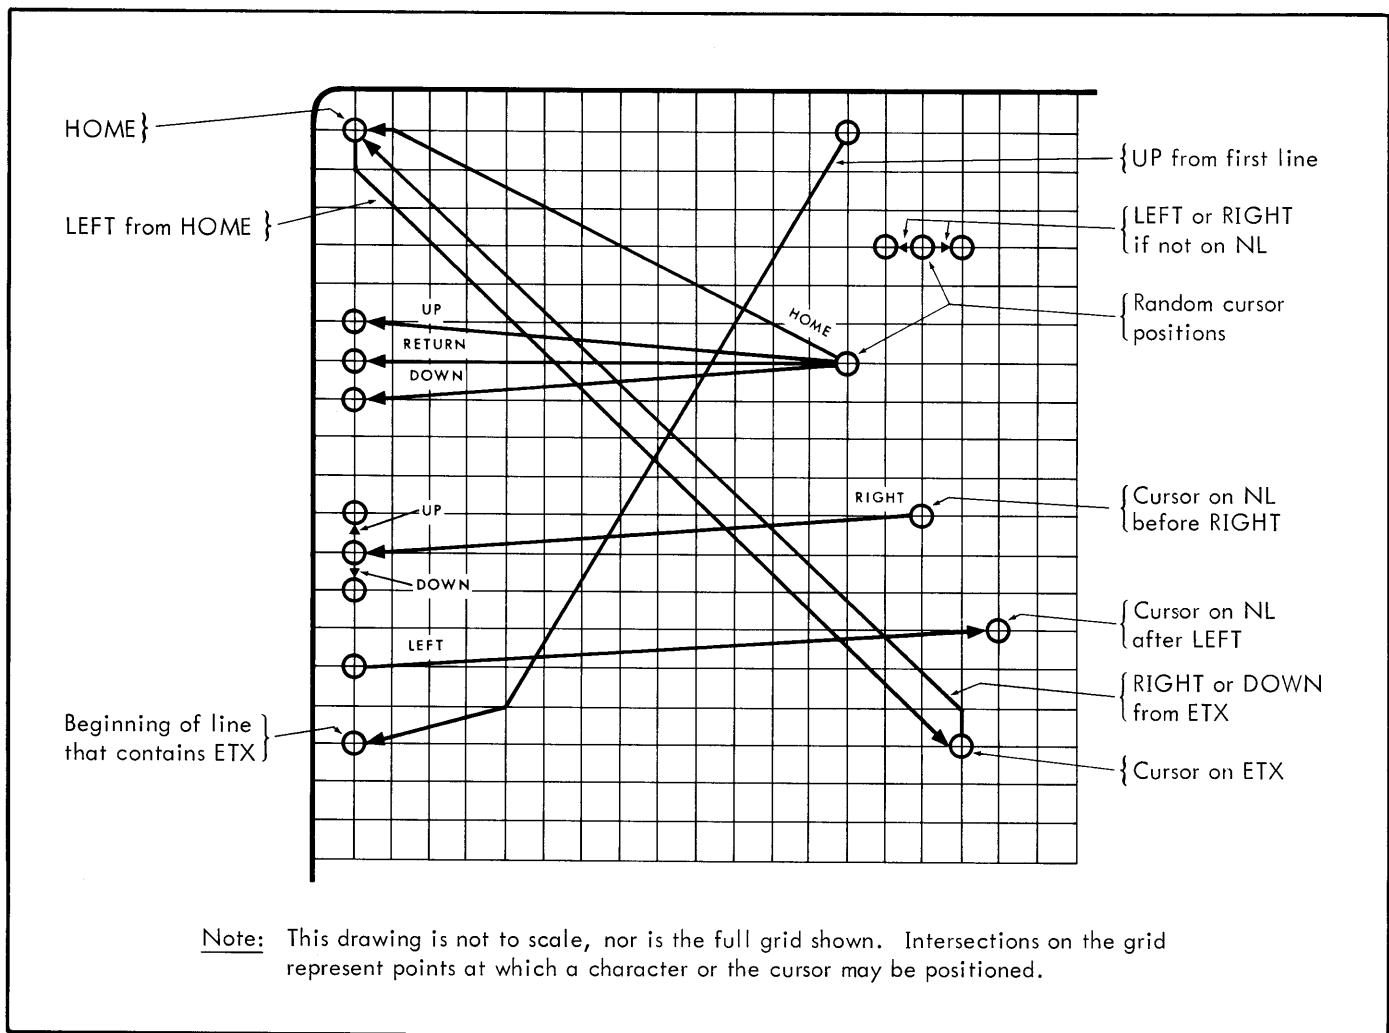

Figure 4. Cursor Operations
The cursor is stored in the delay line memory as a special character; it occupies the character position preceding the character it marks. The cursor may be displayed when marking any character in the 87 by 32 display matrix. The cursor may mark a character outside the matrix but will not be displayed. If the cursor is displayed in the first line of text, a roll forward operation removes the cursor and the first line from the display; if the cursor is displayed in the last line of text, a roll backward operation removes it and the last line from the displayable portion of the screen. In the roll forward operation, the cursor must be moved to Home before any other operation may occur. After a roll backward operation, the operator may restore the line to view by a roll forward operation. Cursor operations (see Figure 4) are explained later in this chapter.
If a new character is added to the line, it goes into the blank space marked by the cursor, and the cursor moves an additional space to the right. If the code marked by the cursor was NL or ETX, the cursor will move one character position to the right but the NL or ETX code is not replaced. (See Figure 4.)
See also Figure 4.
The Cursor Home code (VT) moves the cursor to the first character position of the first line of text. See the following two examples and Figure 4.